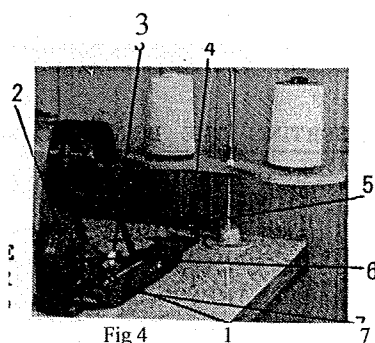

Fig 4
1. PLACE THE BOBBIN (3) ON SPINDLE WINDER
2. PASS THE THREAD THROUGH THE HOLE (4) OF THE BOBBIN WINDER THREAD GUIDE AND THROUGH THE TENSION DISCS (5) FROM THE REAR.
3. PULL THE END OF THE THREAD AND WIND IT AROUND THE EMPTY BOBBIN SEVEN OR EIGHT TIMES FROM THE BOTTOM UP, AS SHOWN BY THE ARROW IN FIG. 4.
4. PUSH THE BOBBIN WINDER LEVER (1) DOWN UNTIL THE BOBBIN WINDER WHEEL (2) PRESSES AGAINST THE DRIVE BELT.
7. YOU CAN ADJUST THE QUANTITY OF THREAD TO BE WOUND ON THE BOBBIN BY ADJUSTING THE SCREW (7) WHICH CONTROLS THE LATCH (6).
8. IF THE THREAD DOES NOT WIND EVENLY ON THE BOBBIN. ADJUST THE POSITION OF THE BOBBIN WINDER THREAD GUIDE (4) BY MOVING IT TO THE RIGHT OR LEFT AFTER LOOSENING THE SCREW.